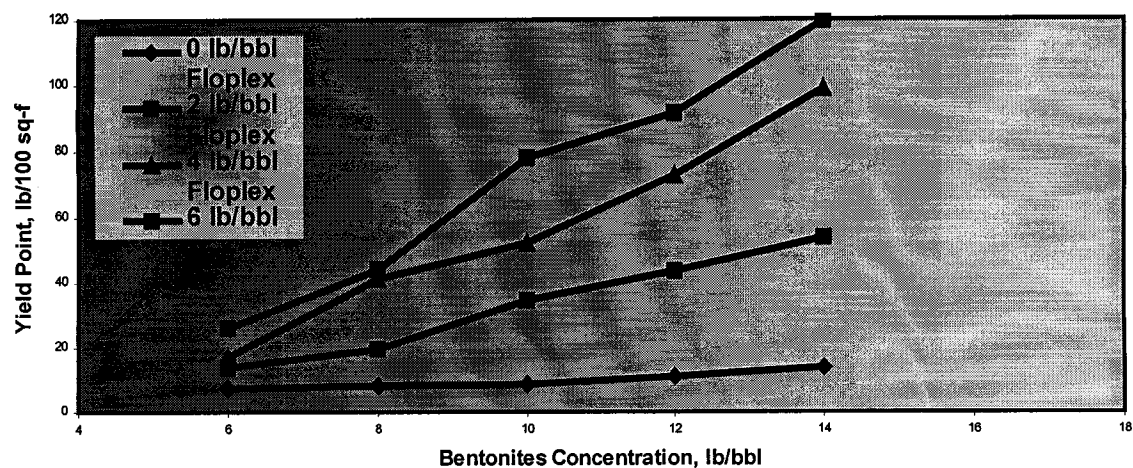

Figure 2. Correlation curve between bentonite concentration and yield point for a visplex value of 1 ppb.
viscosity (AV), yield point (YP), gel strength 10'' and gel strength 10'. The mud is observed on a pH scale of 10.5 with the addition of 50% NaOH solution (10 N) 0.2 ml. The result of the observed mud samples on various concentration ratio are illustrated in figure 2 and table 1.